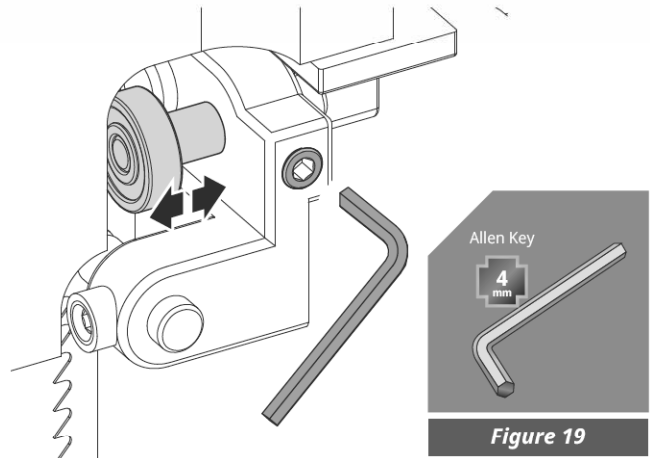

Figure 19
3. Adjust thrust bearing position (distance thrust bearing - band saw blade = 0.5 mm - if the band saw blade is turned by hand, it shall not touch the thrust bearing. ( See Figure 19 )